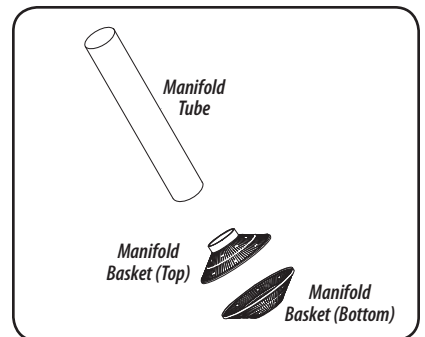

Figure 4
2. Installing the manifold assembly. See Figure 4.